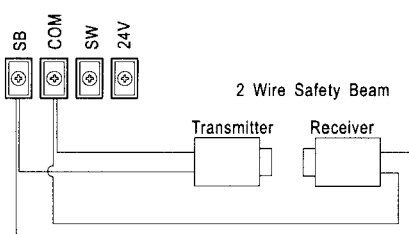

Fig 12A
- Genuine 2 wire Safety Beams (Fig 12A)
- Connect the cables to the screw terminals of the Safety Beams as depicted in Fig.12A.